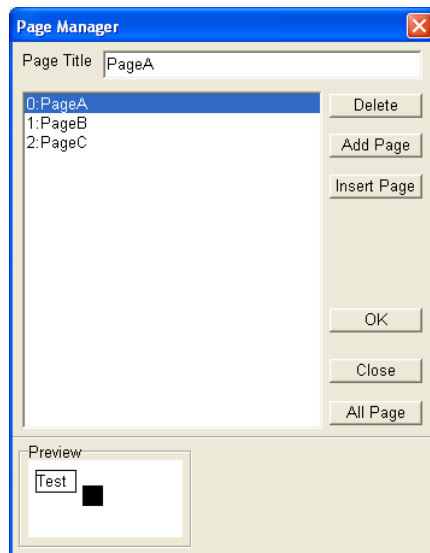

Figure 3-10 **Page Manager** window
- **Page Manager:** Users can preview and manage the pages which are created. After the users click **Page Manager** on the **View** menu, or  on the standard toolbar, the **Page Manager** window will appear, as shown in Figure 3-10. The users can type a title in the **Page Title** box, add pages, delete pages, and open all the pages which are created.